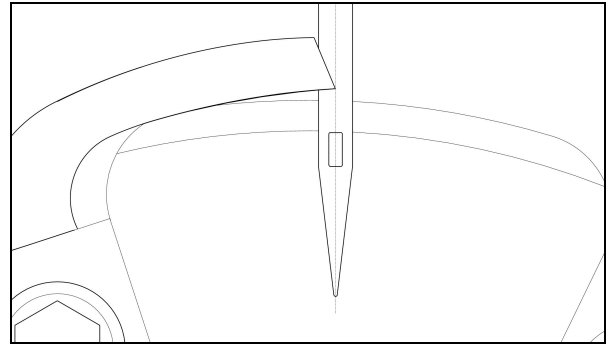

Fig 1
- b. The bottom point of the left looper should be in the center of the needle as shown in Fig 1.